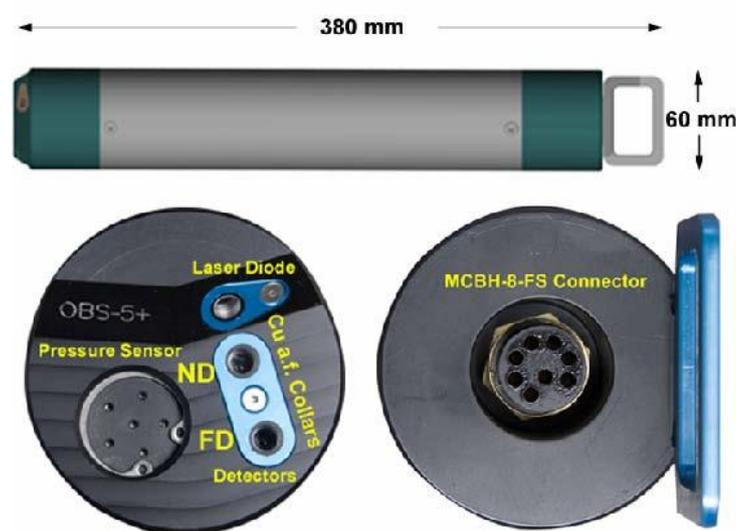
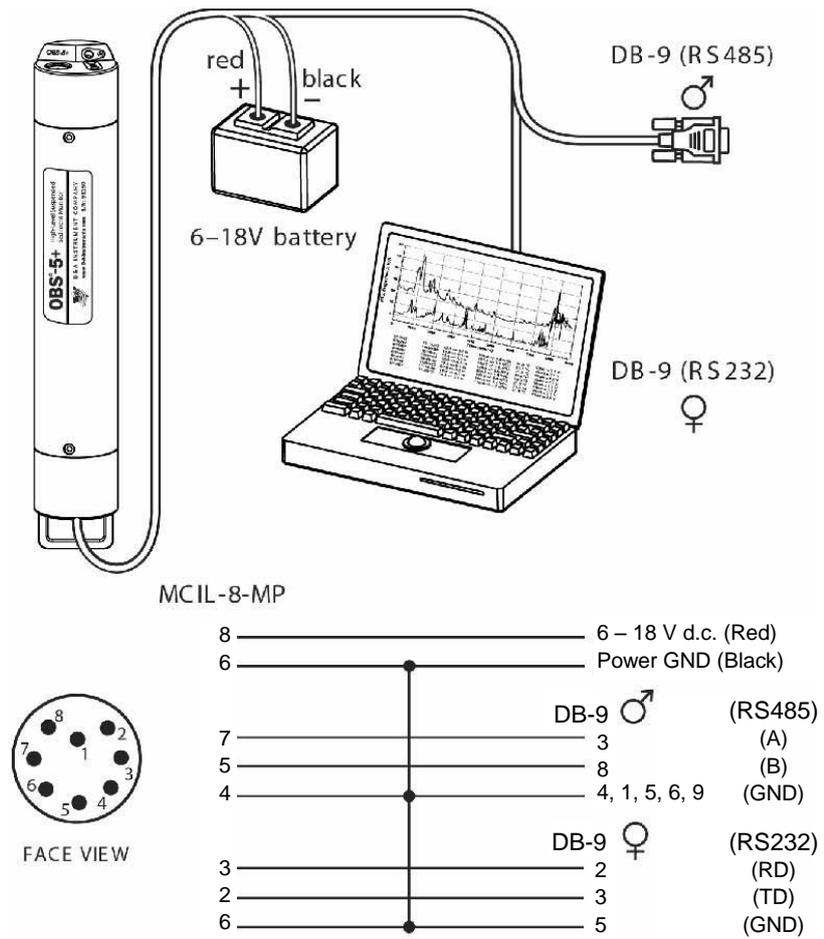

Figure 4-1. Dimensions (top), sensor end cap with copper antifoulant (Cu a.f.) collars (left) and connector end cap (right)
Figure 6-1. Electrical connections
Figure 4-1 shows the dimensions of the OBS-5+, the sensors in the sensor end cap, and underwater connection. Detailed specifications are provided in Section 5, *Specifications*. The OBS-5+ can be operated in Survey or Cyclic Modes. In Survey Mode, the unit sends data via RS-232 or RS-485 to a PC at two hertz, and in Cyclic Mode, it logs as many as 200,000 scans of time, date, depth, and  $g\ L^{-1}$  in flash memory (one sample per hour for 23 years). When sampling continuously, the unit will run about 125 hours on three C-size alkaline batteries in 20°C water (about two weeks of eight-hour survey days). When using the instrument for surveys, the data are captured by a PC running the *OBS-5+ software*. Pressure is measured with a silicon strain-gauge pressure sensor and the depth of the instrument is calculated from water density and barometric pressure entered by the operator.
The OBS-5+ will usually be towed with a cable harness for surveys. The serial cable can tow the OBS-5+ without a depressor weight or vane as long as the connector is strain relieved. Strain relief can be provided by attaching the cable to the stainless steel housing (Figure 4-1) with a cable grip and a length of 3 mm (1/8 in) wire rope. Install a cable clamp with a 0.5 m wire rope to the serial cable, and clamp the wire rope to the pressure housing with two stainless steel hose clamps, providing a small loop of slack cable to absorb towing forces. The unit can be powered with an external battery, as shown on Figure 6-1, and the serial output can be transmitted by either RS-232 or RS-485 protocols. The latter protocol is recommended for cable lengths greater than 25 m. An RS-485/232 serial converter is provided with each unit. An RS-232 to USB converter is an available option.
- 4) Connect the OBS-5+ to a PC with the test cable (Figure 6-1).